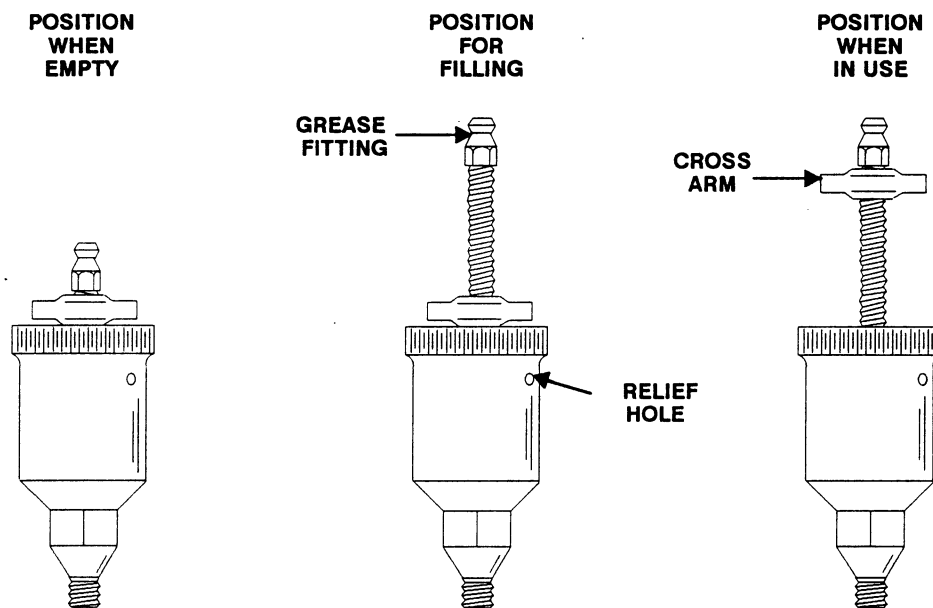

Figure 6. Automatic Lubricating Grease Cup
Fill the grease cup (17) through the grease fitting with No. 2 lithium base grease until grease escapes from the relief hole. Turn the grease cup arm counter-clockwise until it is at the top of the stem; this will release the spring to apply grease to the seal (see Figure 6).